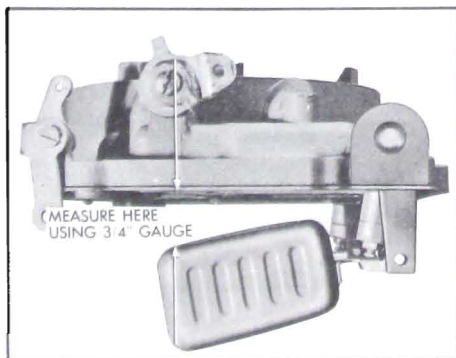

Figure 3-47—Checking Float Drop
11. Adjust Float Drop. With air horn held in upright position, measure vertical distance from air horn gasket to outer end of each float using a scale. Bend float arm tang as required to obtain 3/4" measurement. See Figure 3-47.